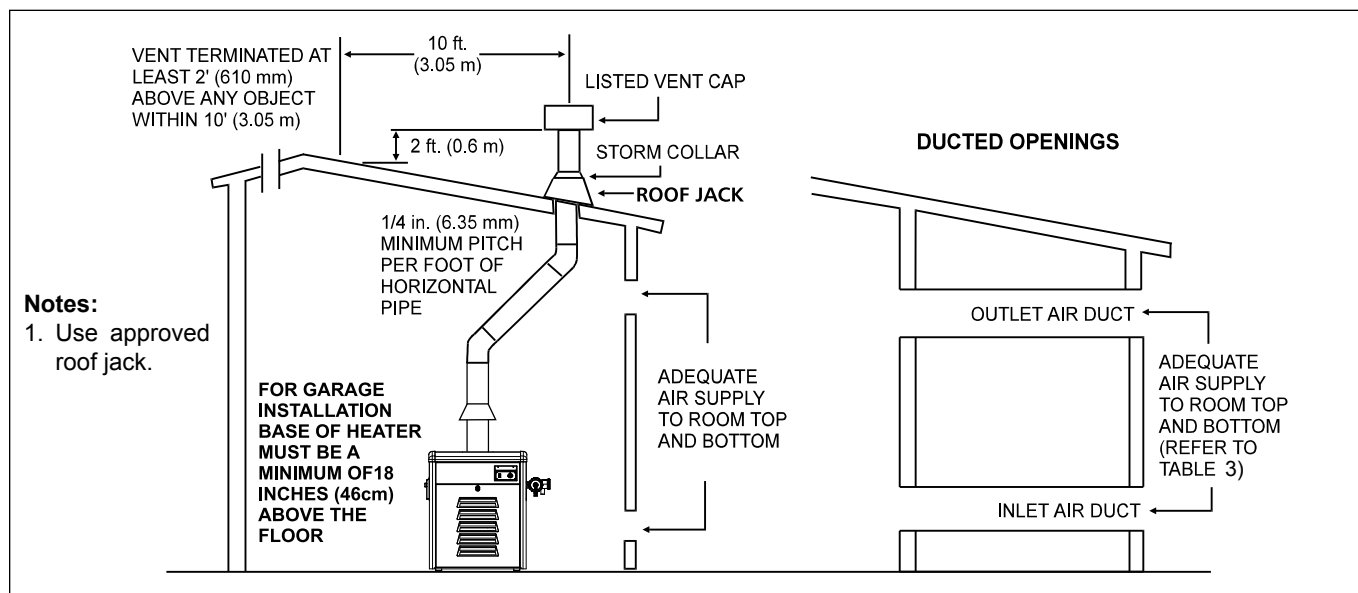

Figure 5. Indoor Installation Venting (USA), or Outdoor Shelter (Canada)
In general, these requirements specify that the room in which a heater is installed should be provided with two permanent air supply openings; one within 12 inches (305mm) of the ceiling, the other within 12 inches (305mm) of the floor. All indoor installations must have openings to outside air for combustion, ventilation, and dilution of flue gases from inside the building, see Figure 5 and Table 3. Zodiac Pool Systems, Inc. does not recommend indoor installations that do not provide combustion air from outside the building.
These requirements are summarized in Table 3. Note that the areas specified are net free areas and should be increased by 50 percent when the openings are covered by screens, louvers, grills or other protective covers. See Figure 5 and Table 3.
The draft hood outlet is to be connected to an unobstructed vent pipe of the same diameter, terminating outside the building. The vent must terminate at least two (2) feet (0.61 m) above the highest point of the roof or other object that is within 10 feet (3.05 m) of the vent termination. The vent pipe must have a listed vent cap which allows a full equivalent opening for flue products, see Figure 5. The top of the vent cap must be at least five feet in vertical height above the draft hood outlet.